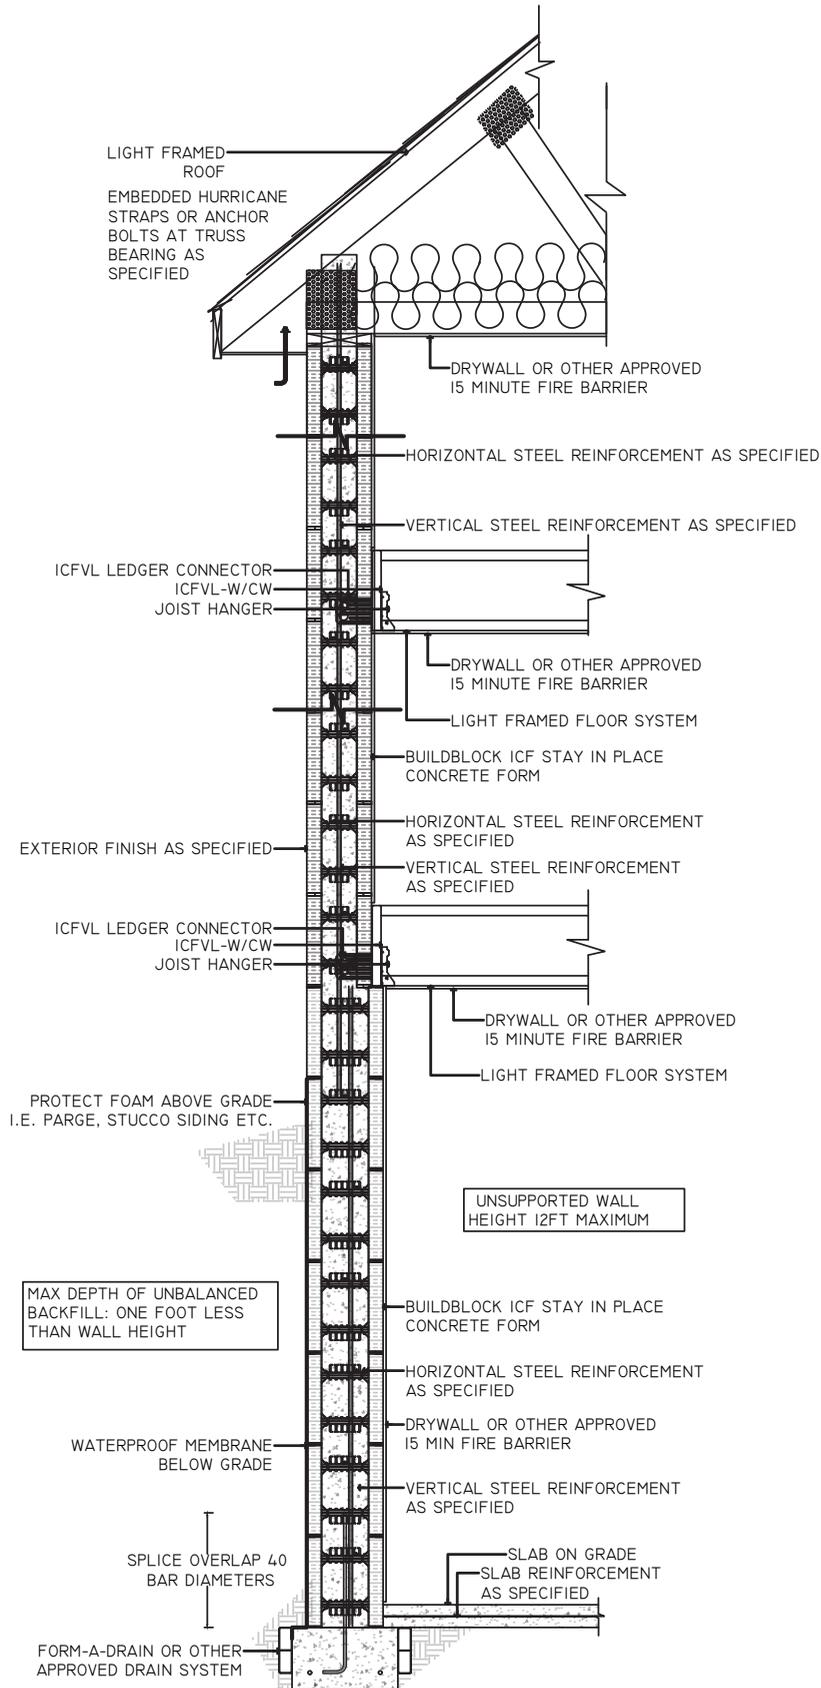

FIGURE 6.4. LOAD CASE 4. SECTION CUT THROUGH FLAT WALL OR VERTICAL CORE OF SCREEN GRID WALL. SUPPORTING 2 STORIES OF ICF WALL.
- Load Case A4 Buildblock wall supporting one-story Buildblock wall and wood framed floor and roof. Maximum axial load. - Figure 6.4; Tables 6.5a&b